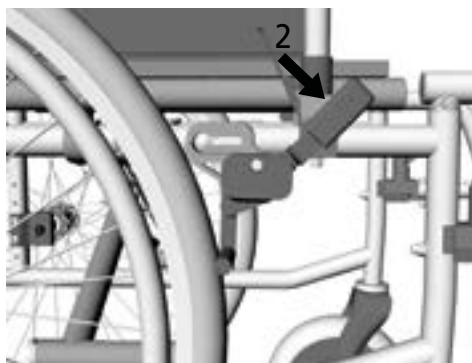

fig. 13
2. Press the brake lever further forwards until you feel it engage (2, fig. 13).